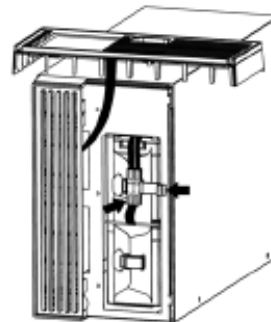

FIG. 4
5. Verify proper polarity. Connect the battery connectors (red and black) together. Place the battery connectors in the battery connector holder and then reattach the battery connector holders (FIG. 4).